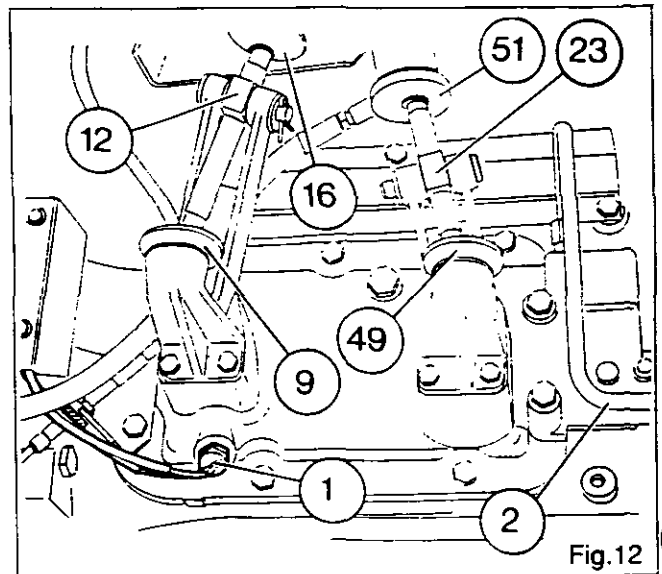

Fig.12
9. Take out cotter pins (18) and (25) and remove washers (17) and (26). Remove pins (11) and (20).
10. Lift dust-covers (49) and (51), and (9) and (16). Take out range lever (23) and gear lever (12) and mark which fits where. Take off pipe (2) (Fig. 12).
11. Disconnect the Hi-Lo wiring from switch (1) (Fig. 12).